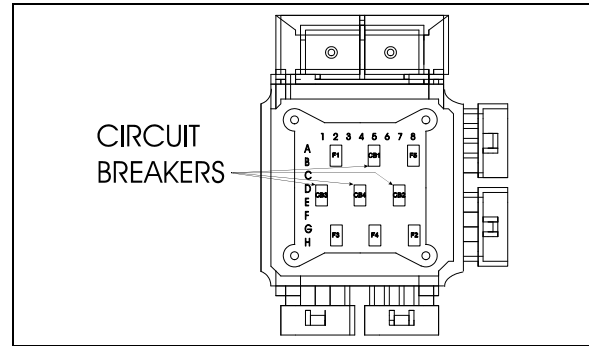
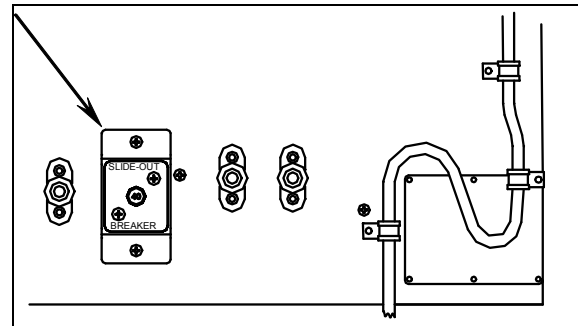

FIGURE 88 : VEC CIRCUIT BREAKERS ON SLIDE-OUT CONTROL PANEL
FIGURE 89 : MAIN SLIDE-OUT BREAKER IN ENGINE R.H. SIDE ACCESS COMPARTMENT
- Make sure that none of the breakers are tripped (the breakers are located inside the VEC on the slide-out control panel (FIGURE 88) and the main slide-out breaker is located in the engine R.H. side access compartment (FIGURE 89).